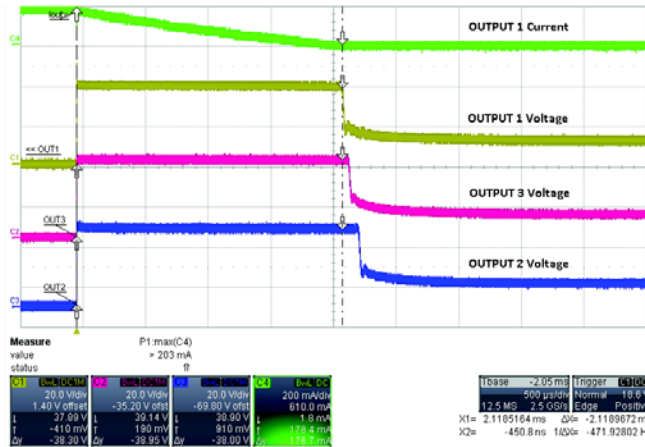

Figure 3. Repetitive Clamping Energy Test
***2M pulses (triangular), VS = 15 V, 63 Ω, 390 mH, T_A = 25°C. (See Figure 3)